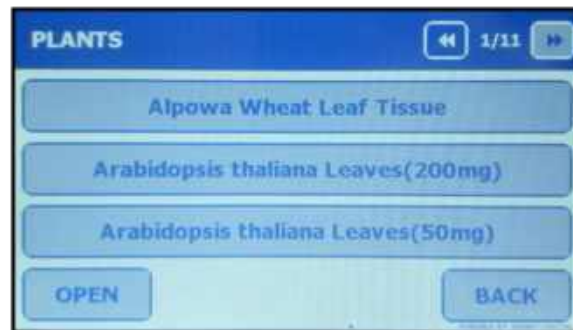

Figure V-3: Plant Category, page 1 of 11
4. Scroll through the program listings using the [/ >>] buttons located on the top right corner of the 'Touch Screen' \(Figure V-3\).